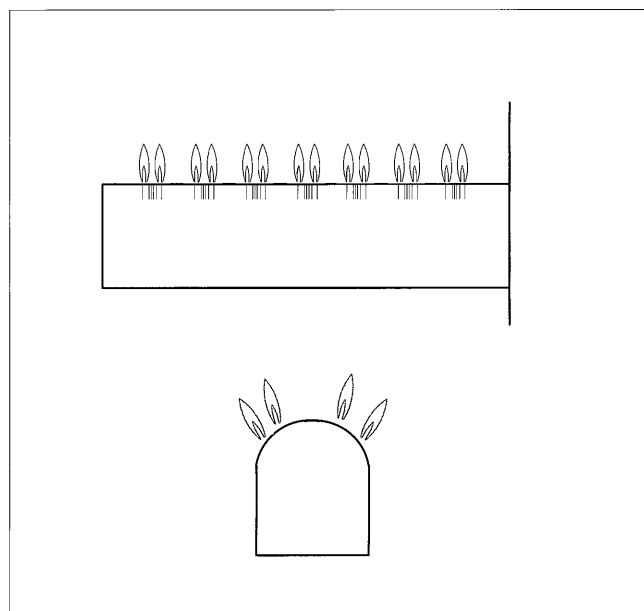

Fig. 11
51. Observe the main burner flame through hole in the burner assembly plate. The flame should have a smooth, firm contour and be mostly blue in color, fig. 11. If the main burner flame is satisfactory, go to step 53. If main burner flame is lazy, yellow, or lifting off the burners, turn the gas control knob clockwise ↻ to "OFF". Shut off the main gas piping shut-off valve. Disconnect all electric power to the appliance and call your service technician or gas supplier.